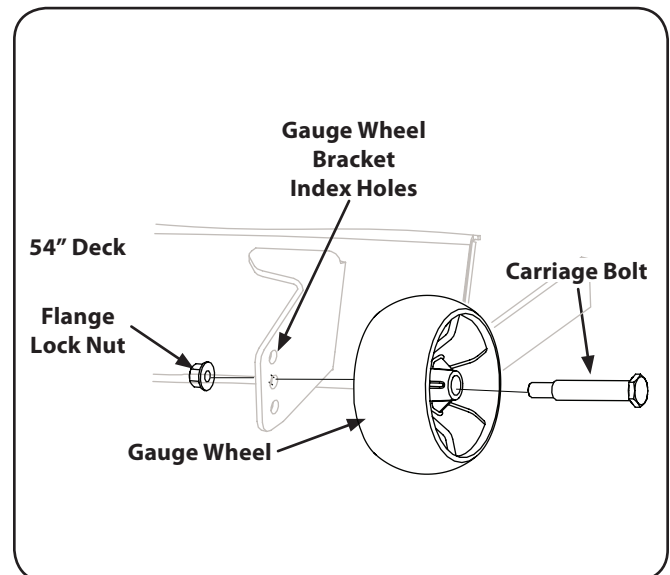

Figure 3-4
2. Remove the front and rear gauge wheels on the deck by removing the carriage bolts and flange lock nuts. See Fig. 3-4.